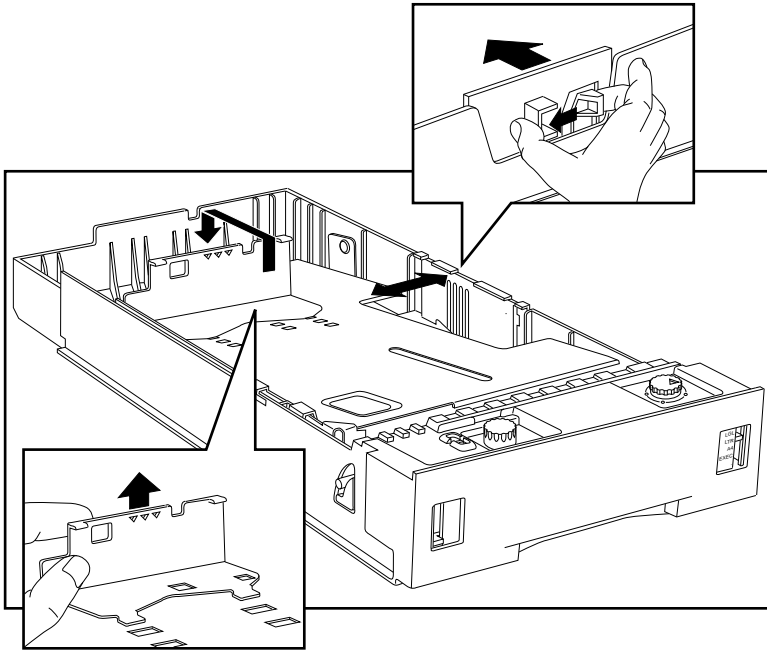

Fig. 9.5 Adjust the Paper Length and Width Guides
4. Check the paper length guide (fig. 9.5). If it is not positioned for the desired length, lift the length guide up and out. Then, place it in the slots for the desired length, making sure it seats firmly into place.
5. Check the paper width guide (fig. 9.5). If it is not positioned for the desired media width, squeeze the green latch on outside of the guide, slide the guide in or out to the desired width, and release the latch.